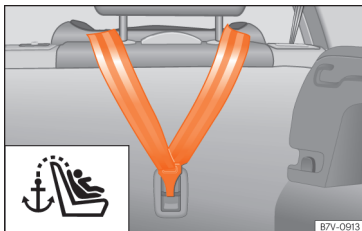

Fig. 31 Back of the rear seats: Top Tether securing rings.
- Slide the strap and secure it properly with the anchorage of the backrest »» Fig. 31.